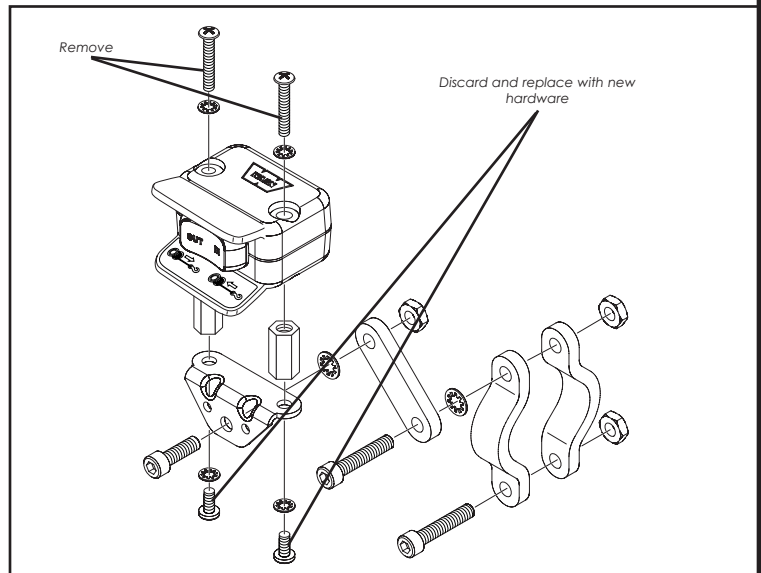

Figure 12
- Remove winch handlebar switch from mount. See Figure 12. Note: It may not be necessary to remove mounting bracket from handlebar.